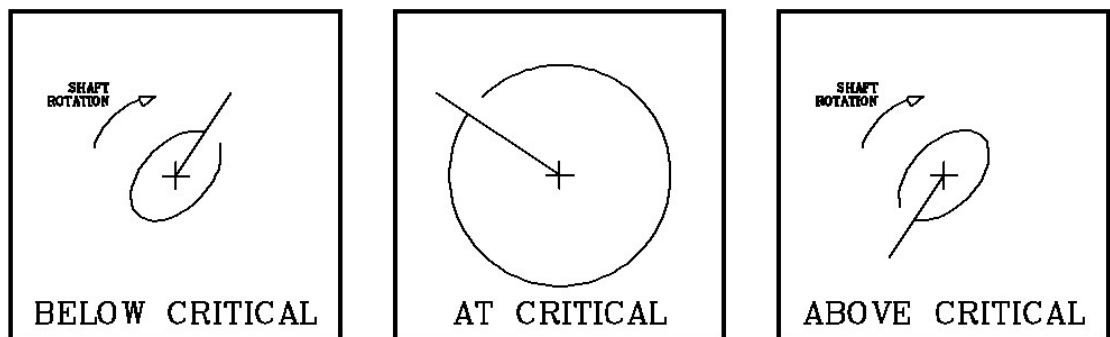

Fig. 6.2
5. While observing the oscilloscope display, operate the rotor over its speed range. Control the rotor ramp rate for slow speed increase. See Fig. 6.2 below.